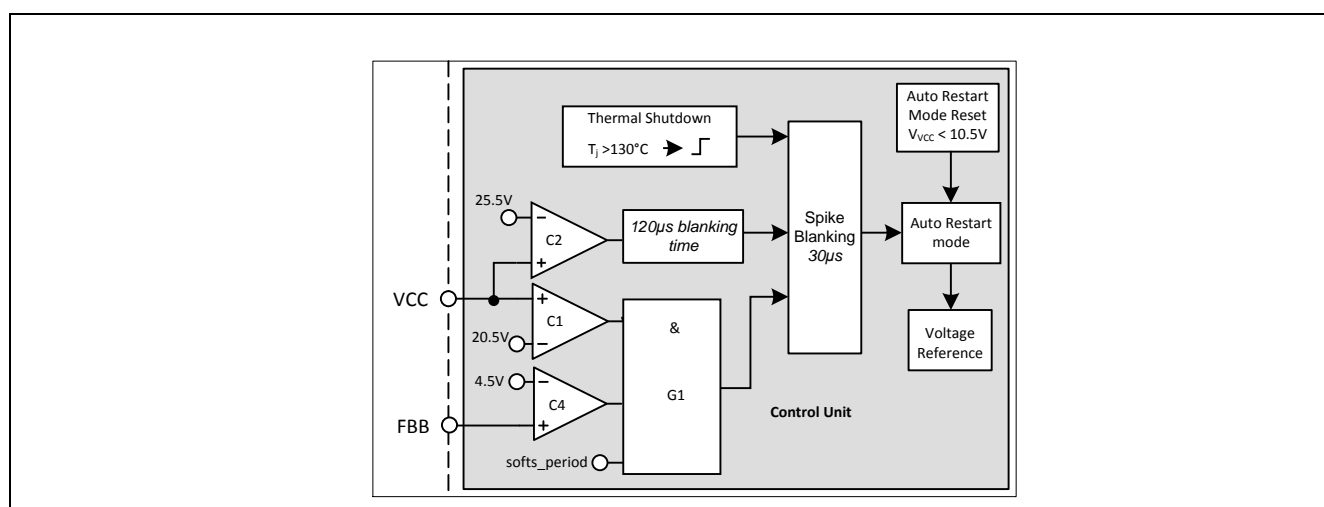

Figure 30: Vcc OVP and OTP
Vcc OVP (1) condition is when V_{VCC} voltage is > 20.5V, V_{FBB} voltage is > 4.5V and during soft start period, the IC enters into odd skip Auto Restart Mode. This condition likely happens during start up at open loop fault (Figure 30).
V_{CC} OVP (2) condition is when V_{CC} voltage is > 25.5V, the IC enters into odd skip Auto Restart Mode (Figure 30).
The over temperature protection OTP is sensed inside the controller IC. The Thermal Shutdown block keeps on monitoring the junction temperature of the controller. After detecting a junction temperature higher than 130°C, the IC will enter into the non switch Auto Restart mode. The ICE3AR0680VJZ has also implemented with a 50°C hysteresis. That means the IC can only be recovered when the controller junction temperature is dropped 50°C lower than the over temperature trigger point (Figure 30).